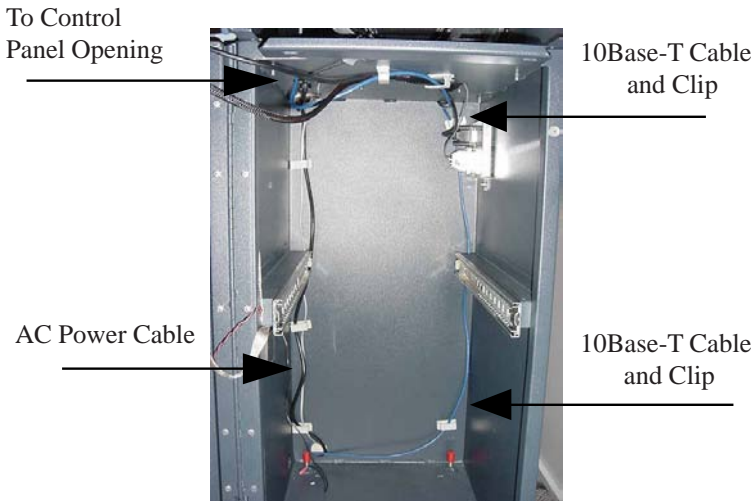

Figure 2-3
5. Locate the (3) adhesive clips and affix to the inside back wall. Feed the 10Base-T cable up through the cable clips and through the opening to the control panel. Cable is routed away from the AC power cable to minimize electromagnetic interference (Figure 2-3). You may have to remove the dispenser assembly for ease of cable installation.